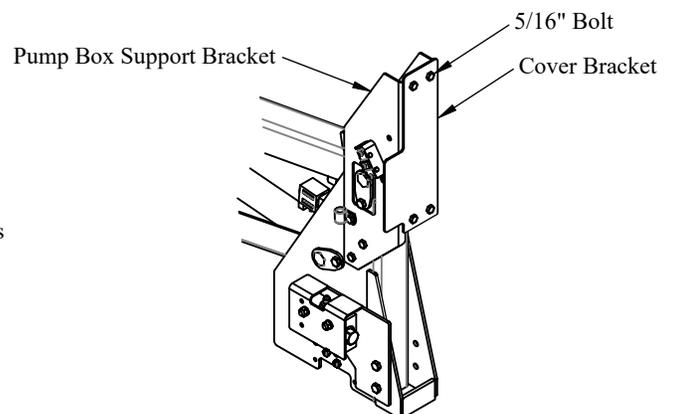

Figure 6: Cover bracket.
17. **Install** cover bracket on the pump box support brackets with provided 5/16" bolts, lock washers and nuts (Figure 6).